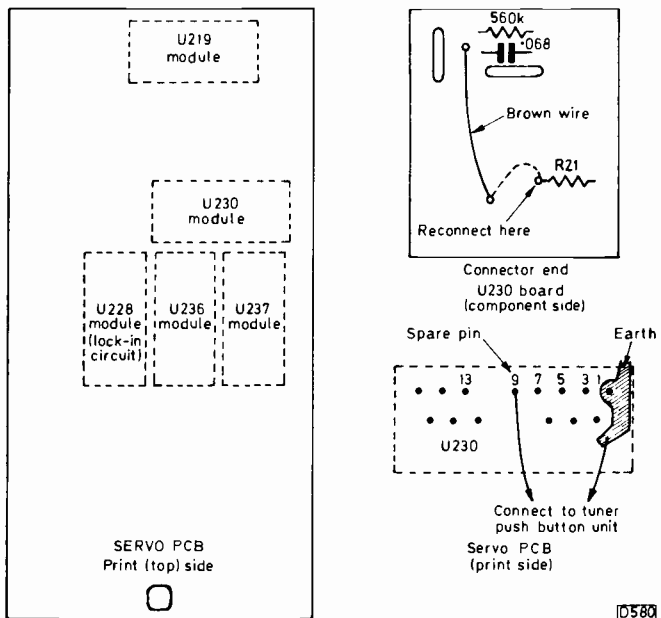

Fig. 3: Modifications to the U230 module.
The servo board will be seen on top of the tape deck. Locate module U230 and remove it (see Fig. 3). The module plugs in - don't unsolder it. Find R21 and remove but don't discard it, then unsolder the brown wire and reconnect it as shown - in the hole where the left-hand end of R21 was. This brings the connection for R21 out to an unused pin (9) on the edge connector. Connect a length